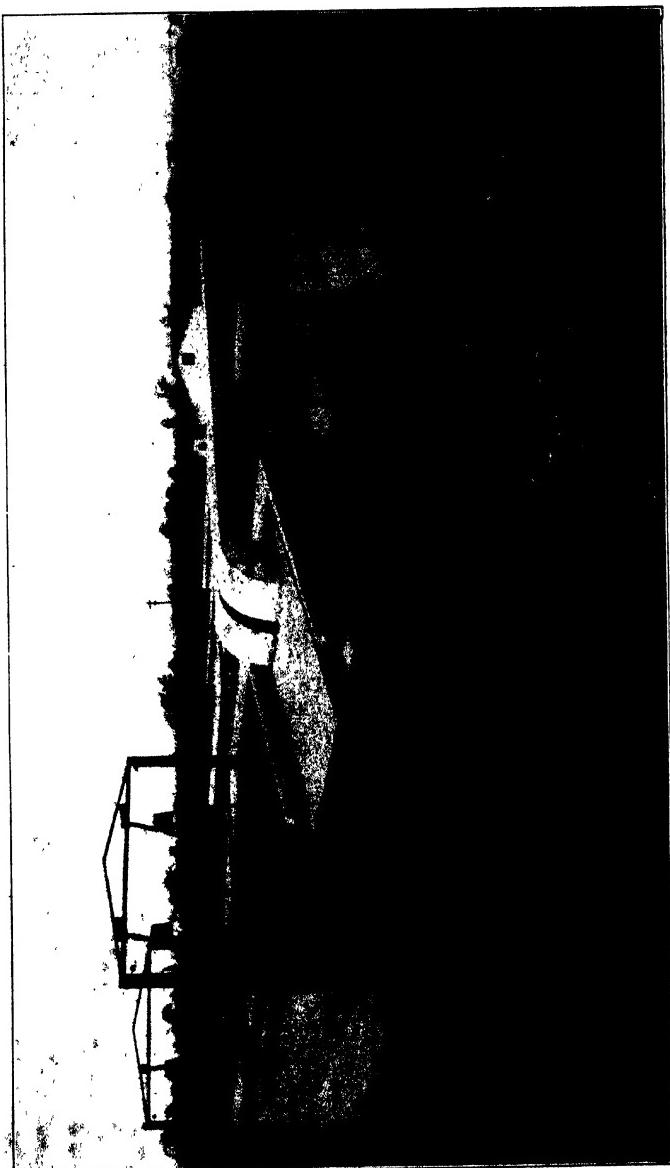

FIG. 57. Lumber-Kiln
(2) Kiln-drying or hot-air-seasoning is a much more rapid process than air-seasoning and is now in common use, Fig. 57. The drying is also more complete, for while air-dried wood retains from 10% to 20% of moisture, kiln-dried wood may have no more than 5% as it comes from the kiln. It will, however, reabsorb some moisture from the air, when exposed to it.